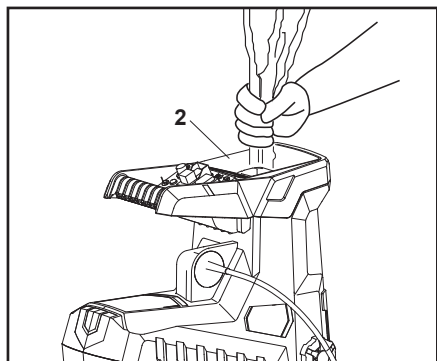

Fig. 11
4. Slowly feed material (e. g. garden waste, branches) into the feeding funnel (2) (Fig. 11). Only insert as much feeding material as to avoid blockage of feeding funnel and cutting blades.